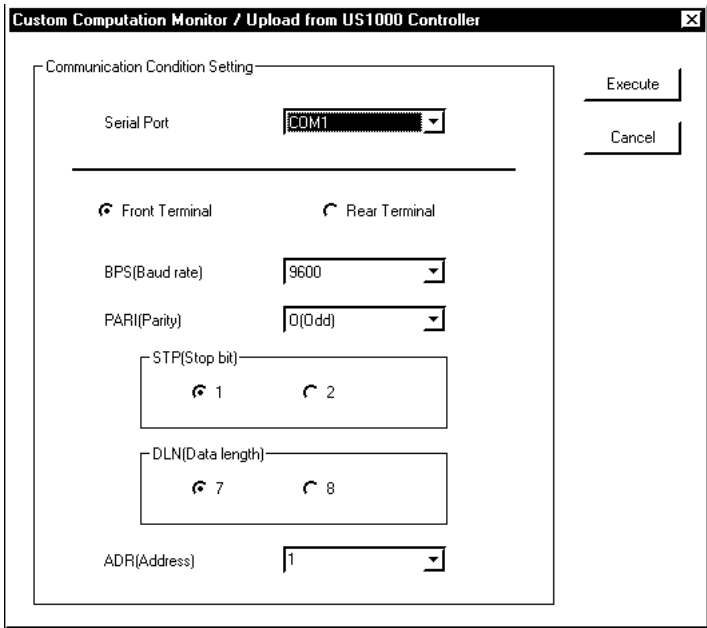

Figure 11.3.1 [Communication Condition Setting] Dialog Box
- ① From the tool menus, choose <Communication>, then <Custom Computation Monitor>, then <Output Block>. The [Communication Condition Setting] dialog box (Figure 11.3.1) appears.